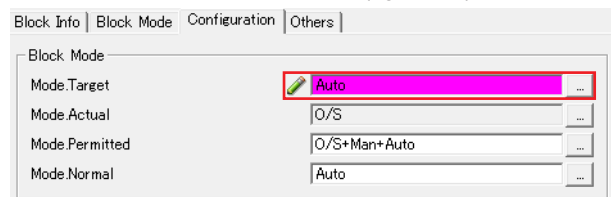

Figure 13
- ④ Under Block Mode, set Mode.Target to O/S. Set the parameters according to table 5, "Device parameter setting example," and then click Download to device.
- ⑤ Next, under Block Mode, set Mode.Target to Auto. Then click Download to device (figure 13).